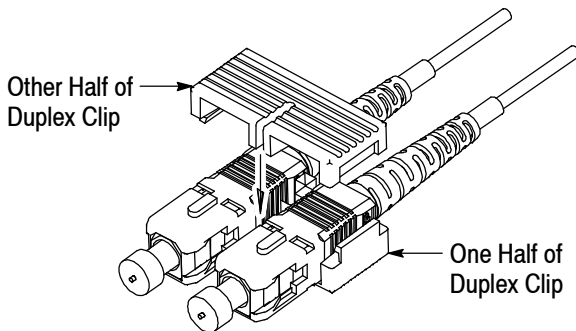

Figure 12
1. Place a connector subassembly in each pocket of one half of the duplex clip. See Figure 12.